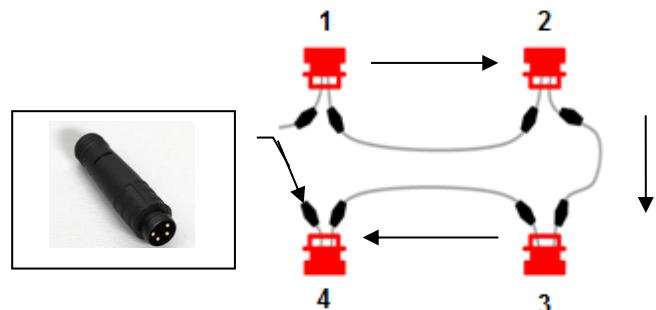

Figure 2: Bus connection
1. Connect the motion detector cable with one another using the snap-in connectors (Figure 2, Pos. 1-4).
2. Attach the accompanying plug on the open snap-in connector of the last motion detector (Figure 2, Pos. 4) with terminator.